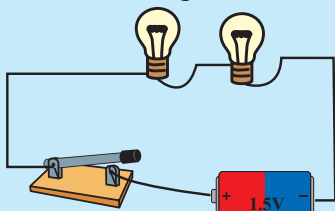

Figure 10.12 ▲
- Connect two bulbs with a switch and a cell as shown in Figure 10.12.